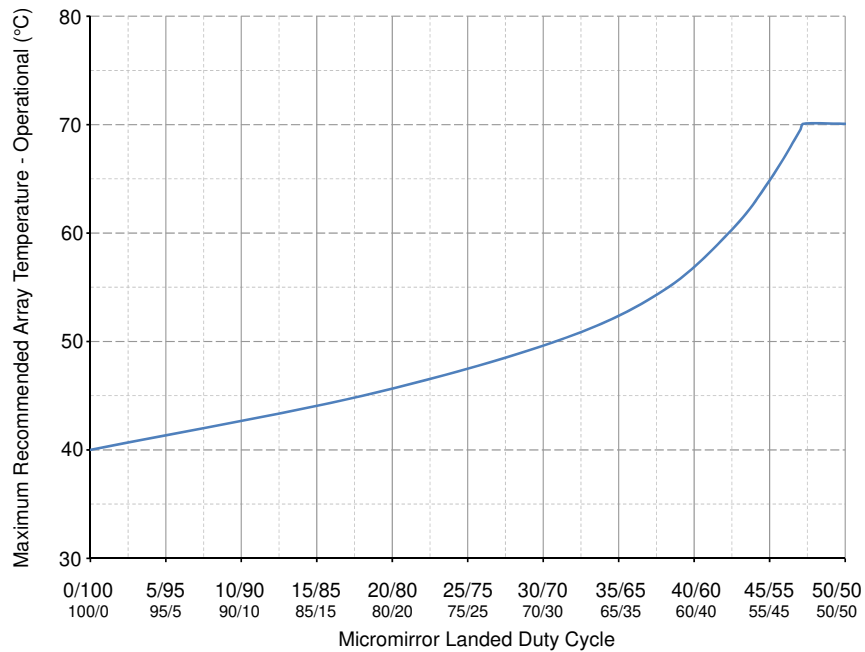
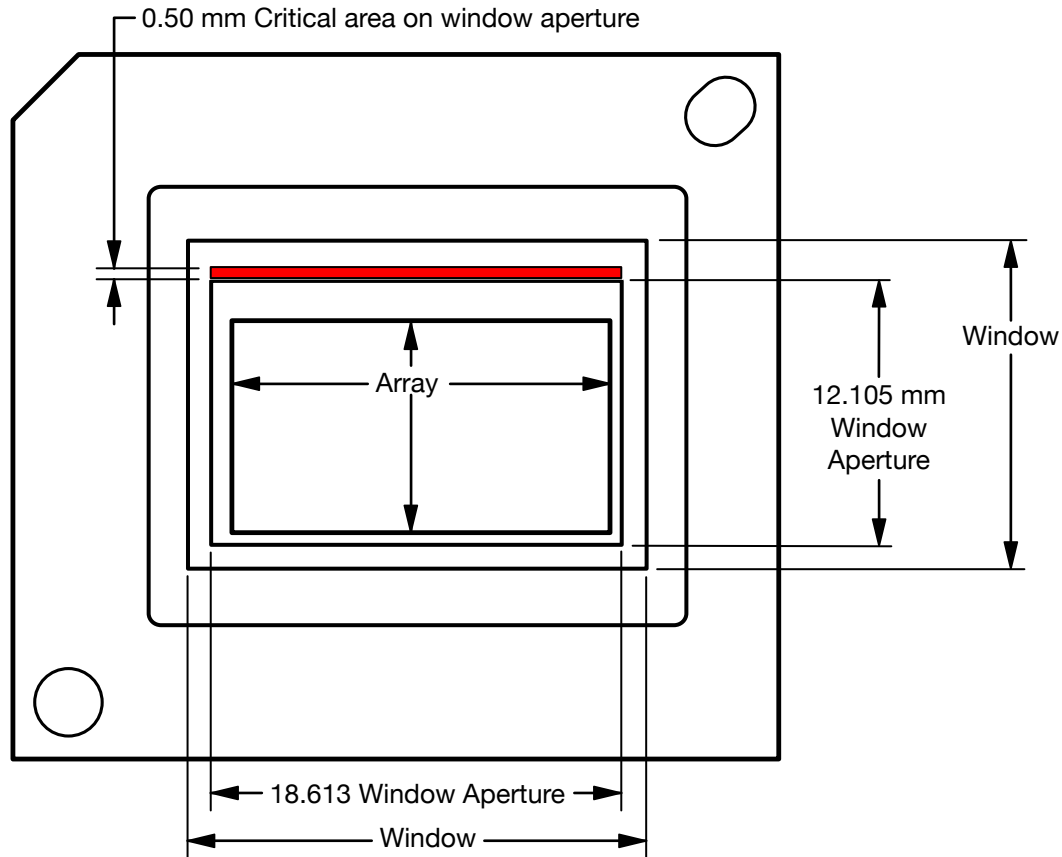

Figure 6-1. Maximum Recommended Array Temperature - Derating Curve
Figure 6-2. Illumination Overfill Diagram - Critical Area
- (9) Long-term is defined as the usable life of the device.
- (10) Per Figure 6-1 the maximum operational array temperature is derated based on the micromirror landed duty cycle that the DMD experiences in the end application. See Micromirror Landed-on/Landed-off Duty Cycle for a definition of micromirror landed duty cycle.
- (11) Short-term is the total cumulative time over the useful life of the device.
- (12) The average over time (including storage and operating) that the device is not in the elevated dew point temperature range.
- (13) Exposure to dew point temperatures in the elevated range during storage and operation is limited to less than a total cumulative time of CT_{ELR} .
- (14) Applies to region defined in Figure 6-2.
- (15) The active area of the DMD is surrounded by an aperture on the inside of the DMD window surface that masks structures of the DMD device assembly from normal view. The aperture is sized to anticipate several optical conditions. Overfill light illuminating the area outside the active array can scatter and create adverse effects to the performance of an end application using the DMD. Minimizing the light flux incident outside the active array is a design requirement of the illumination optical system. Depending on the particular optical architecture and assembly tolerances of the optical system, the amount of overfill light on the outside of the active array may cause system performance degradation.
- (16) The maximum allowable optical power incident on the DMD is limited by the maximum optical power density (ILL_{VIS}) and the micromirror array temperature (T_{ARRAY})